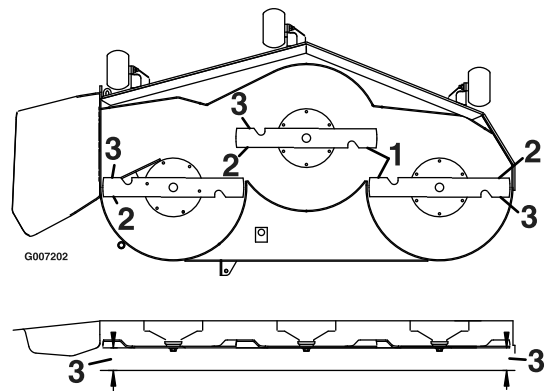

Figure 69
4. Measure between the outside cutting edges and the flat surface (Figure 69). If both measurements are not within 3/16 inch (5 mm), an adjustment is required; continue to the Leveling procedure.